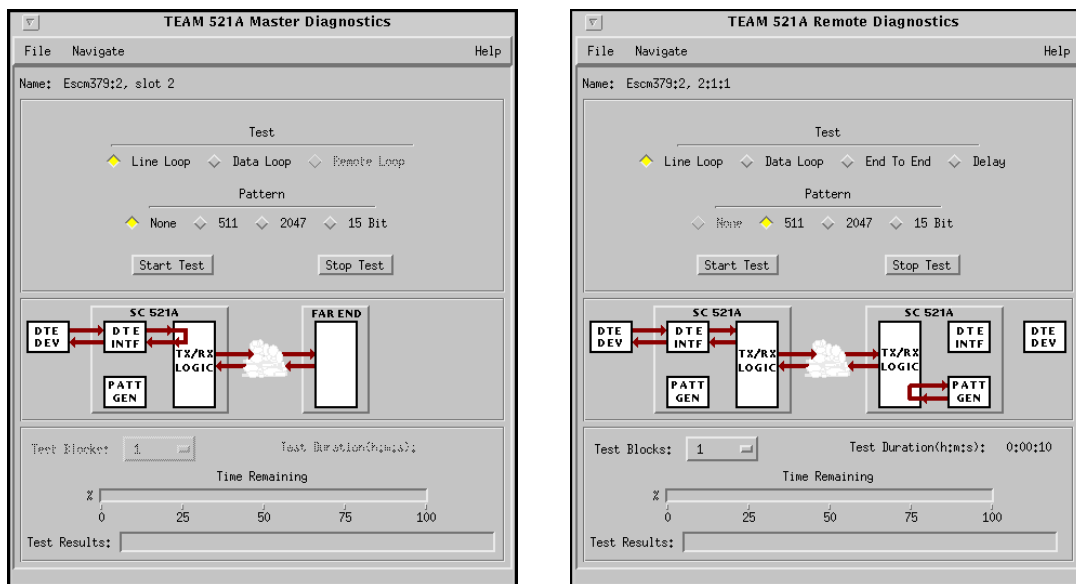

Figure 4-1 SC521A Diagnostics Windows
- Click on the Select button of the Front Panel display, then click on Fault and select Diagnose from the resulting menu. When the master or remote TEAM 521A Diagnostics window appears (Figure 4-1), the read-only Name field displays the shelf and slot identification for the DSU.